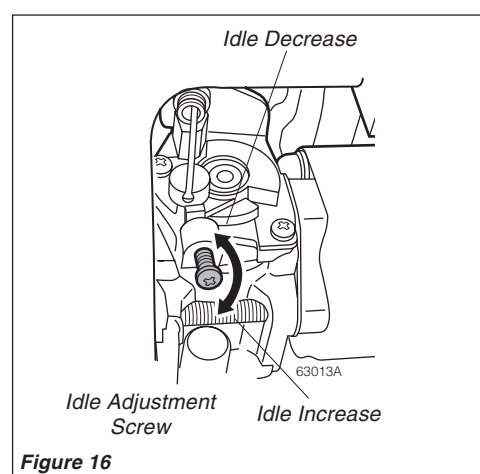

Figure 16
2. If a tachometer is available, the engine idle speed should be final adjusted to 2,200 (± 200) rpm (min^{-1}). See Figure 16.